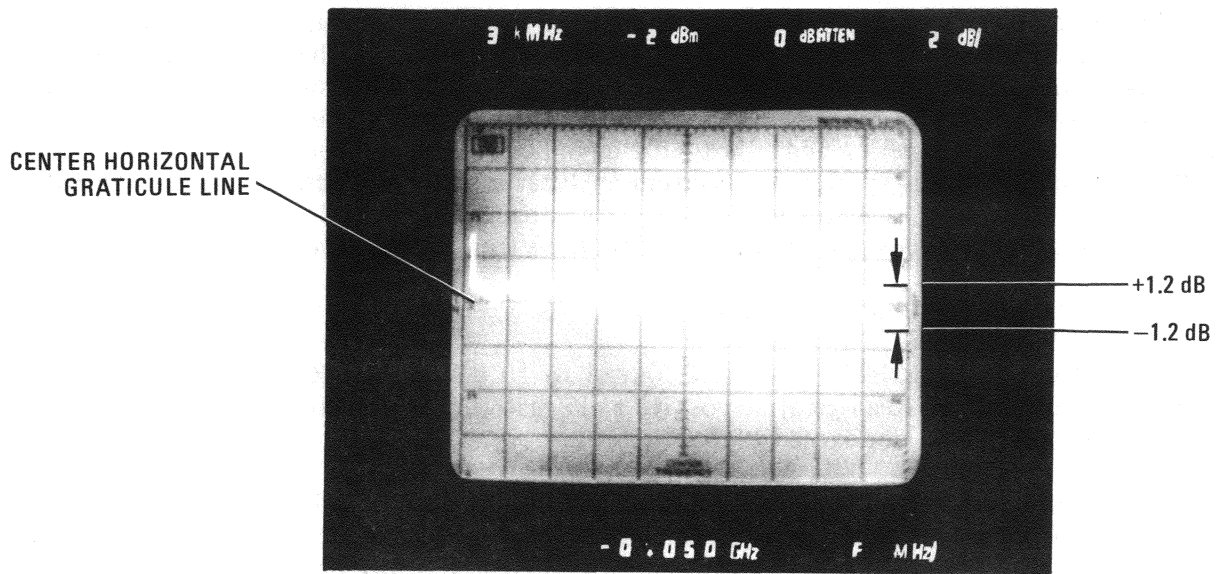

Figure 2. Typical Frequency Response, .01 to 1.8 GHz
- g. Set spectrum analyzer PERSIST control fully clockwise. Set sweep oscillator for automatic internal sweep at slowest sweep time (100 seconds). Slowly adjust sweep oscillator sweep time vernier for display similar to that of Figure 2. Read greatest positive and greatest negative deviations from center horizontal graticule line. Frequency response (deviation from center horizontal graticule line) should not exceed ± 1.2 dB.